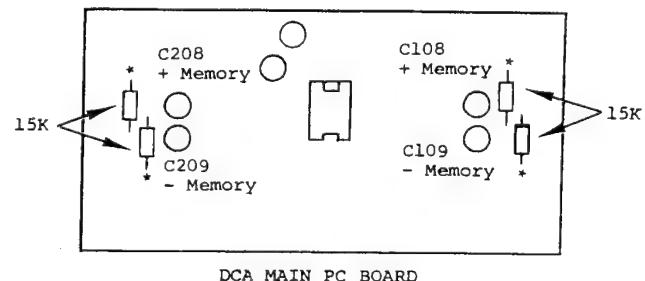

FIGURE 5-3
Positive and negative memory capacitors are used in each channel to adjust the sensitivity and activation of the protection circuit. The operating point of the protection circuitry depends on the previous signal history fed back to the memory capacitors. Their operation is verified by monitoring the voltages developed across them for various conditions of output operation. Refer to Figure 5-3. The memory capacitors are vertically mounted white components mounted in pairs near each end of the DCA main pc board.
3. Make voltage measurement across the memory capacitor by placing the voltmeter reference leads between the output of the channel under test and the leads of the 15k resistors adjacent to the memory capacitors. Test point locations are shown in Figure 5-3 as *.